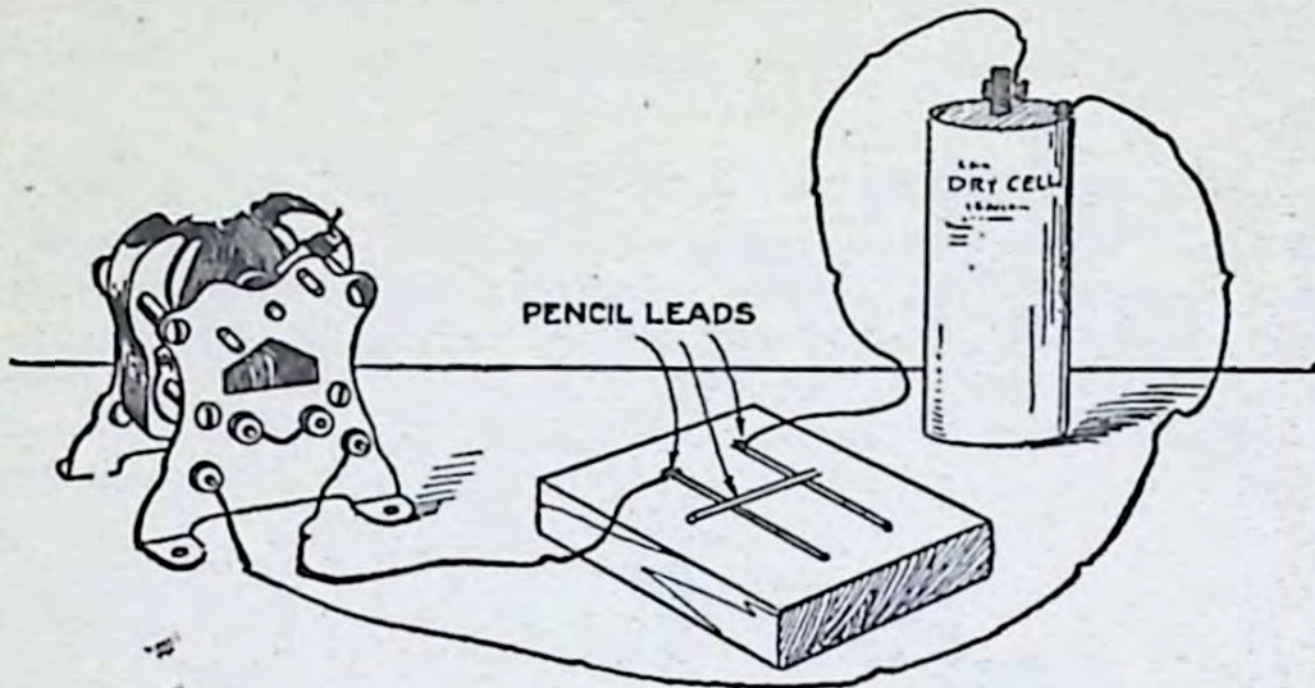

Fig. 19
(23) **HOW TO MAKE A SIMPLE CARBON RHEOSTAT:** Take the leads out of two pencils and be careful not to break them. Wrap and twist a piece of bare copper wire around one end of each and then glue them to a strip of wood as shown in Fig. 19. Connect these two wires to the battery and your motor and then slide another and shorter piece of lead from the ends to which the wires are attached toward the free ends, when the resistance will become greater and the speed of your motor will be less, as well as the power developed.